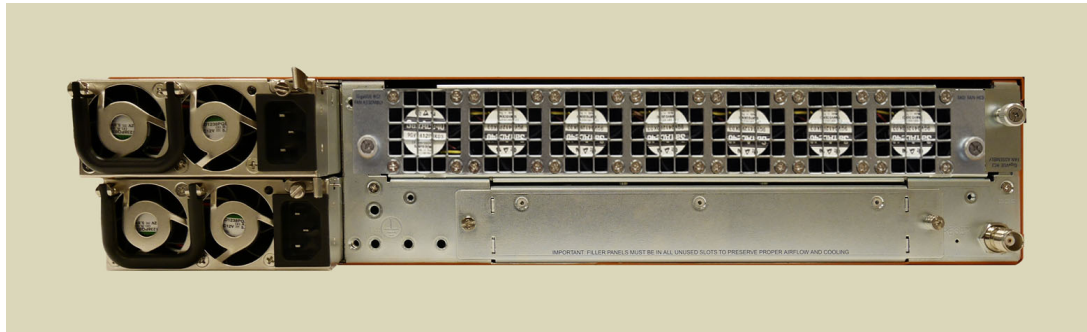

Figure 3-4: Power Module (AC Version Shown)
3. Carefully slide the first power module into the matching receptacles at the rear of the node (Figure 3-4 on page 43), making sure to fit the tab at the base of the module into the matching bay at the bottom of the receptacle. Push gently to seat the unit firmly in the chassis.